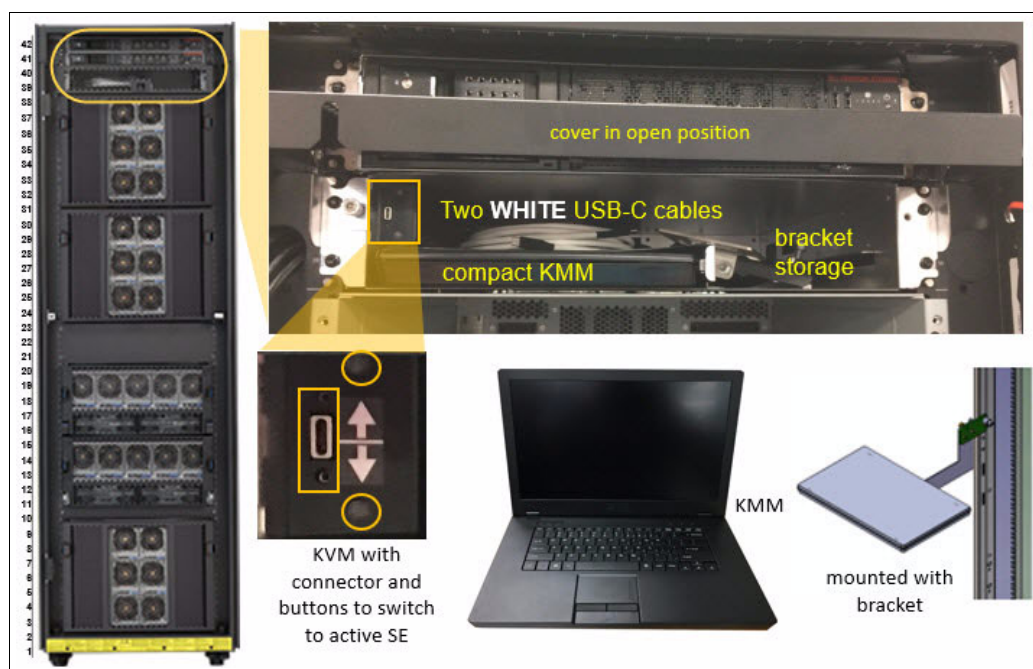

Figure 10-7 Support Element KMM device for z15 T02 (Max65 shown)
- ▶ Switching between SEs is done by using a button that is on the KVM. It also indicates which SE is selected (see Figure 10-7 on page 398).
The SE KMM device is shown in Figure 10-7.